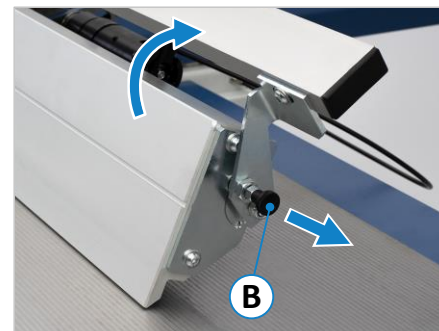

Figure 23: Auxiliary fence
- When not in use, pull the locking bolt (B) outwards, swivel the fence to the upper position (see ⇨ Figure 23) and engage the locking bolt (B) back into place.